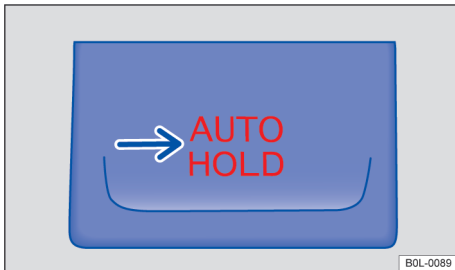

Fig. 99 In the centre console: button for the Auto Hold function
The indicator lamp in the **AUTO HOLD** → Fig. 99 button lights up *the red jump lead* and the indicator lamp **Ⓢ** in the instrument cluster display lights up *green* when the Auto Hold function is activated.
- Press the button **AUTO HOLD** → ⚠. The indicator lamp in the **AUTO HOLD** → Fig. 99 button lights up *the red jump lead*. Auto Hold is ready for use, but the vehicle is not necessarily stopped. → ⚠
- Press the button **AUTO HOLD** → ⚠. The indicator lamp → Fig. 99 in the **AUTO HOLD** button goes out.